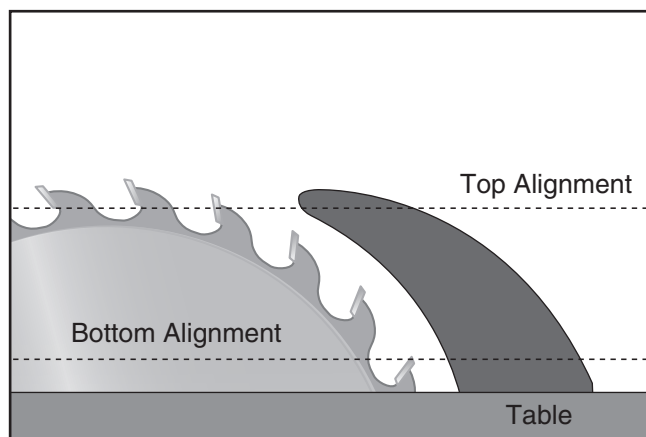
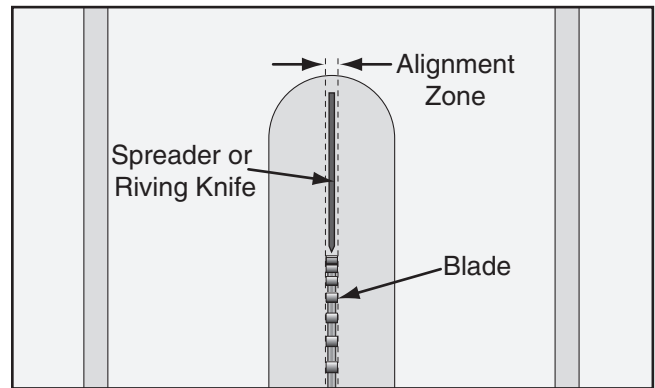

Figure 113. Checking top and bottom riving knife parallelism with blade.
Figure 114. Spreader/riving knife alignment zone.
3. Place the straightedge against the top and bottom of blade and spreader/riving knife, as shown in **Figure 113**. The spreader/riving knife should be parallel with the blade along its length at both positions, and it will be in the "Alignment Zone," as shown in **Figure 114**.